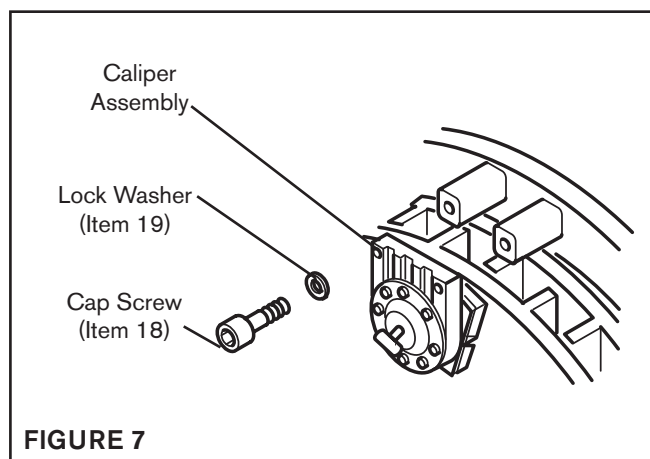

FIGURE 7
2. Using Lock Washers (Item 19) and Cap Screws (Item 18), attach caliper halves to each remaining caliper position (See Figure 7).